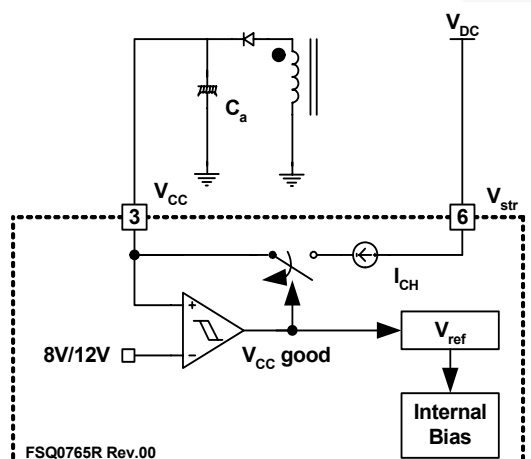

Figure 31. Startup Circuit
**4.3 Output-Short Protection (OSP):** If the output is shorted, steep current with extremely high di/dt can flow through the SenseFET during the LEB time. Such a steep current brings high voltage stress on drain of SenseFET when turned off. To protect the device from such an abnormal condition, OSP is included in the FSQ-series. It is comprised of detecting  $V_{FB}$  and SenseFET turn-on time. When the  $V_{FB}$  is higher than 2V and the SenseFET turn-on time is lower than 1.2 $\mu$ s, the FPS recognizes this condition as an abnormal error and shuts down PWM switching until  $V_{CC}$  reaches  $V_{start}$  again. An abnormal condition output short is shown in Figure 31.